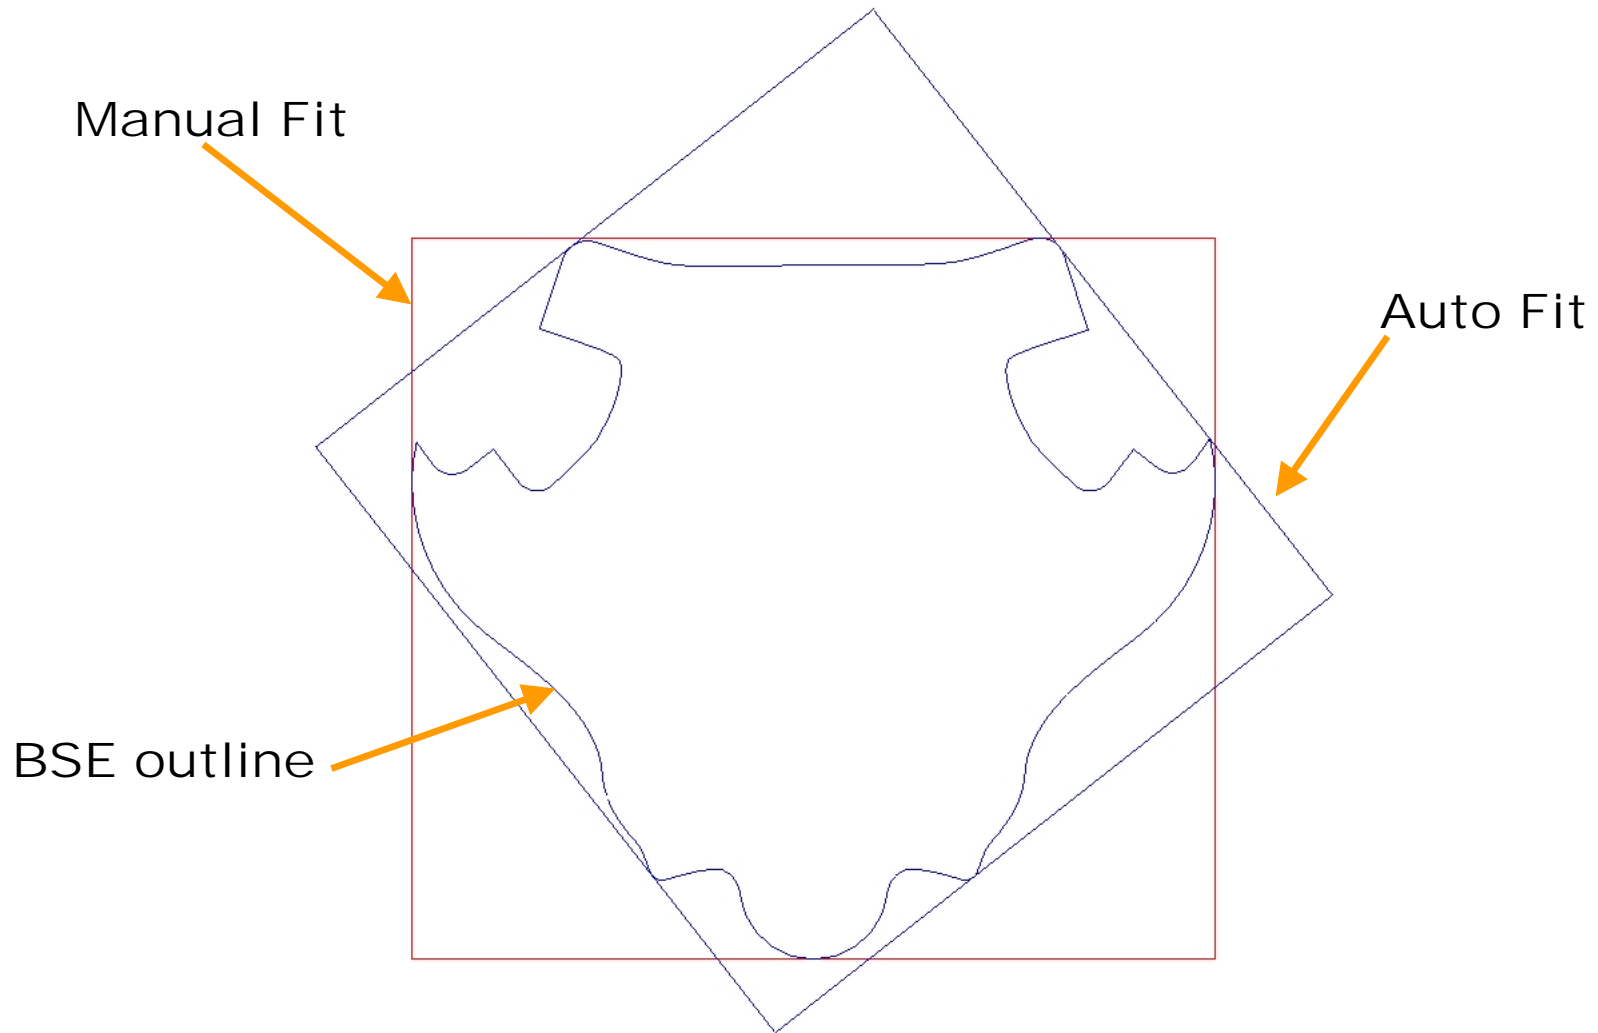

Figure 1.18
- i) Click on **Apply** to create rectangular blank outline (as shown in Figure 1.18)